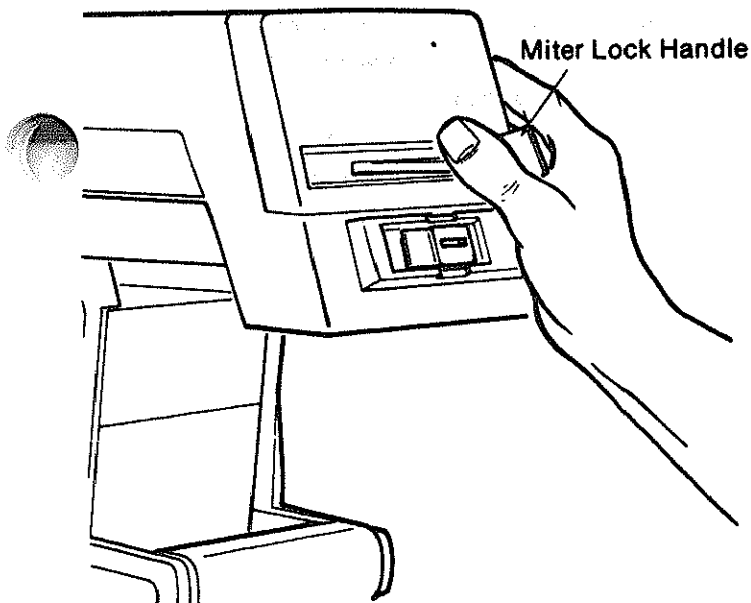

Fig. 183 - Miter Lock - Unlocked
1. Move the *arm* to an unindexed position and leave the *miter lock* in the unlocked position. (Figure 183)